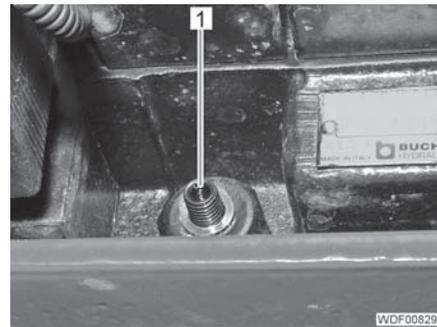

Fig. 31 Pressure control valve
- Turn the primary pressure control valve (Fig. 31,1) clockwise with a hexagon socket wrench: Pressure increases.